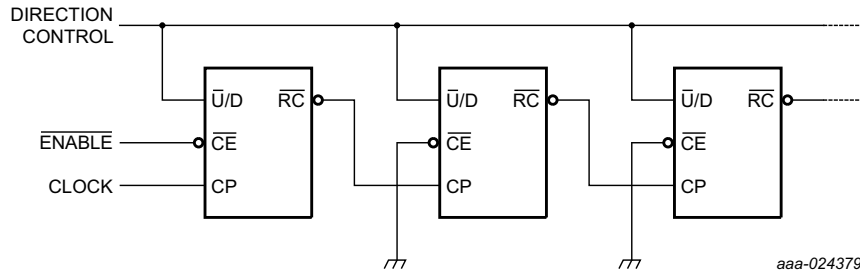
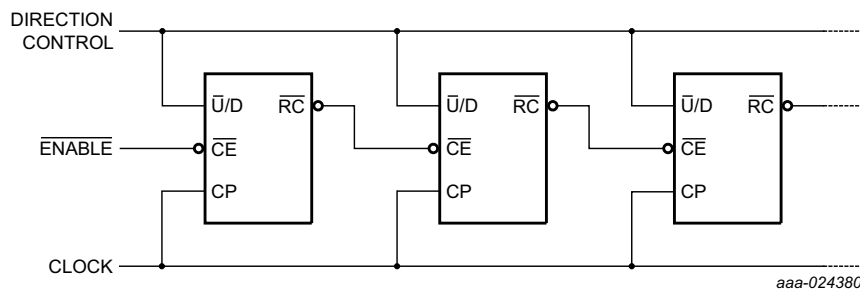

Fig 5. N-stage ripple counter using ripple clock
Fig 6. Synchronous n-stage counter using ripple carry/borrow
The 74HC191 is an asynchronously presettable 4-bit binary up/down counter. It contains four master/slave flip-flops with internal gating and steering logic to provide asynchronous preset and synchronous count-up and count-down operation. Asynchronous parallel load capability permits the counter to be preset to any desired value. Information present on the parallel data inputs (D0 to D3) is loaded into the counter and appears on the outputs when the parallel load ( $\overline{PL}$ ) input is LOW. This operation overrides the counting function. Counting is inhibited by a HIGH level on the count enable ( $\overline{CE}$ ) input. When  $\overline{CE}$  is LOW internal state changes are initiated synchronously by the LOW-to-HIGH transition of the clock input. The up/down ( $\overline{U/D}$ ) input signal determines the direction of counting as indicated in the function table. The  $\overline{CE}$  input may go LOW when the clock is in either state, however, the LOW-to-HIGH  $\overline{CE}$  transition must occur only when the clock is HIGH. Also, the  $\overline{U/D}$  input should be changed only when either  $\overline{CE}$  or CP is HIGH. Overflow/underflow indications are provided by two types of outputs, the terminal count (TC) and ripple clock (RC). The TC output is normally LOW and goes HIGH when a circuit reaches zero in the count-down mode or reaches '15' in the count-up-mode. The TC output will remain HIGH until a state change occurs, either by counting or presetting, or until  $\overline{U/D}$  is changed. Do not use the TC output as a clock signal because it is subject to decoding spikes. The TC signal is used internally to enable the  $\overline{RC}$  output. When TC is HIGH and  $\overline{CE}$  is LOW, the  $\overline{RC}$  output follows the clock pulse (CP). This feature simplifies the design of multistage counters as shown in Figure 5 and Figure 6. In Figure 5, each  $\overline{RC}$  output is used as the clock input to the next higher stage. It is only necessary to inhibit the first stage to prevent counting in all stages, since a HIGH on  $\overline{CE}$  inhibits the  $\overline{RC}$  output pulse. The timing skew between state changes in the first and last stages is represented by the cumulative delay of the clock as it ripples through the preceding stages. This can be a disadvantage of this configuration in some applications. Figure 6 shows a method of causing state changes to occur simultaneously in all stages. The  $\overline{RC}$  outputs propagate the carry/borrow signals in ripple fashion and all clock inputs are driven in parallel. In this configuration the duration of the clock LOW state must be long enough to allow the negative-going edge of the carry/borrow signal to ripple through to the last stage before the clock goes HIGH. Since the  $\overline{RC}$  output of any package goes HIGH shortly after its CP input goes HIGH there is no such restriction on the HIGH-state duration of the clock. In Figure 7, the configuration shown avoids ripple delays and their associated restrictions. Combining the TC signals from all the preceding stages forms the  $\overline{CE}$  input for a given stage. An enable must be included in each carry gate in order to inhibit counting. The TC output of a given stage is not affected by its own  $\overline{CE}$  signal therefore the simple inhibit scheme of Figure 5 and Figure 6 does not apply. Inputs include clamp diodes. This enables the use of current limiting resistors to interface inputs to voltages in excess of  $V_{CC}$ .